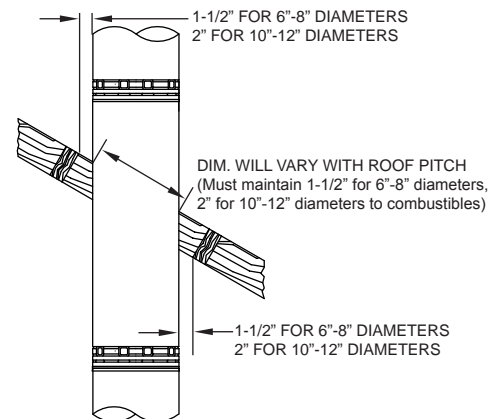
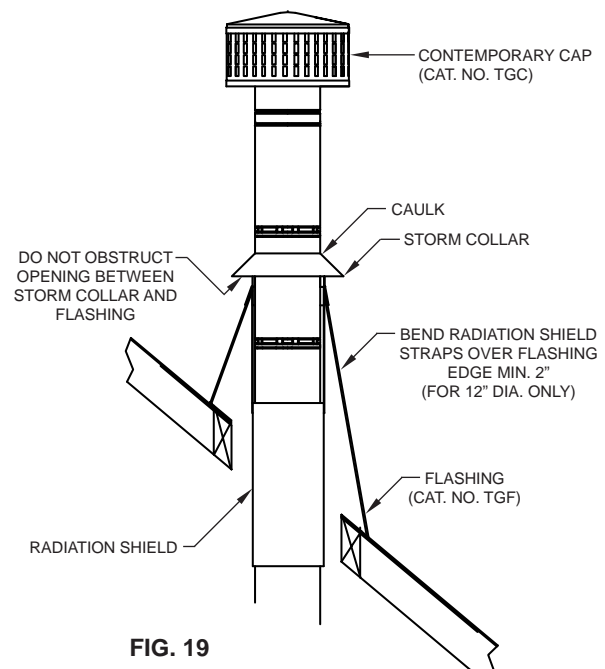

FIG. 18
FIG. 19
2. Install the next TG chimney section through the roof. See **FIG. 18**. For 12" chimney only, install a radiation shield (TGRSH) over the chimney section so that the shield straps can be temporarily bent over the roof to hold in place. After installing the flashing, these straps will be attached to the flashing as shown in **FIG. 19**.